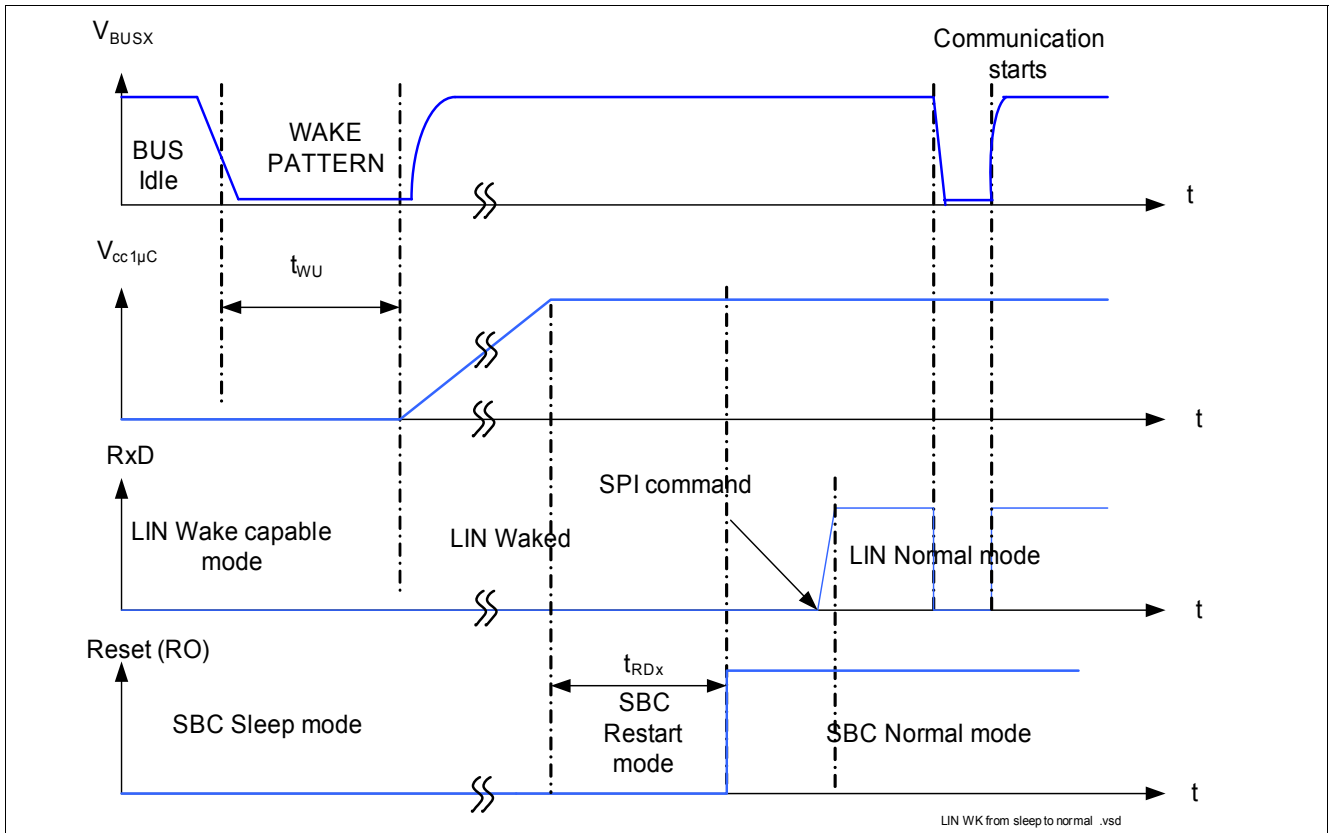

Figure 19 Timing during Transition from SBC Sleep to SBC Normal Mode
Wake-up is possible via a LIN message (filtering time $t > t_{WK,bus}$), it automatically transfers the SBC into the SBC Restart Mode and from there to Normal Mode the corresponding RxD pins in set to LOW, see Figure 19. The microcontroller is able to detect the low signal on RxD and to read the wake source out of the “Wake Register Interrupt” register (000) via SPI. No Interrupt is generated when coming out of Sleep Mode. The µC can now switch the CAN transceiver into LIN Normal Mode via SPI to start communication.